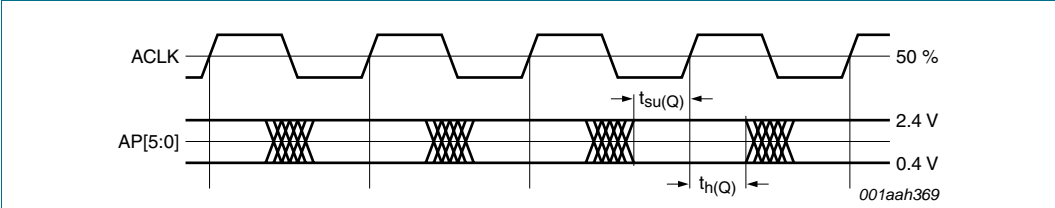

Fig 6. Output timing diagram pin ACLK on pins AP[5:0]
**Timing output: pins AP[5:0] with respect to ACLK;  $f_{clk} = 12.288\text{ MHz}$ ;  $C_L = 10\text{ pF}$ ; see Figure 6**